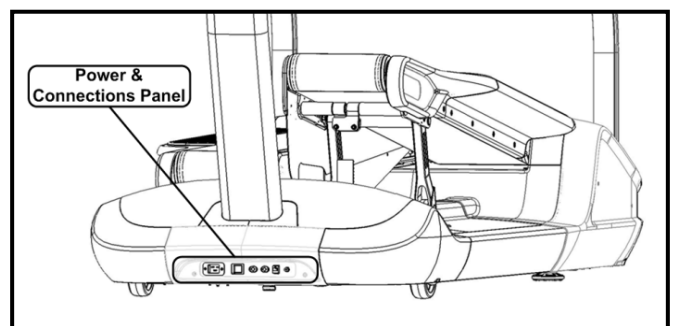

Fig. 32
31. Plug the power cord into the power & connections panel located at the front of the machine (Fig. 32).